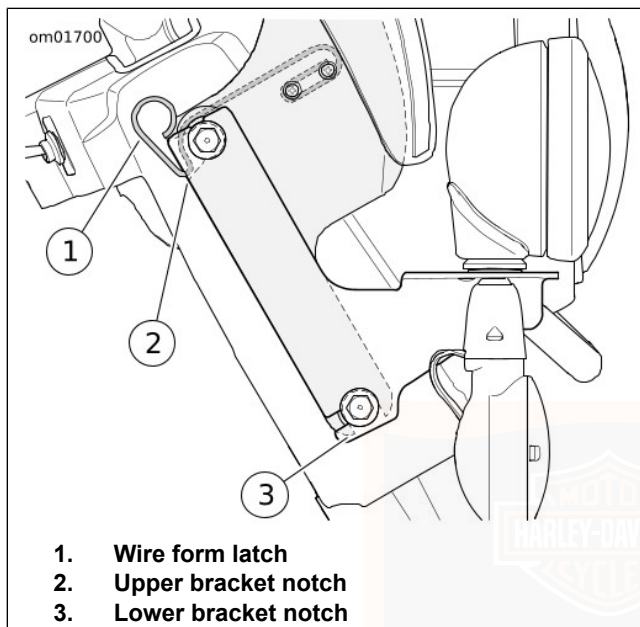

Figure 51. Removeable Windshield
1. See Figure 51. Lift the wire form latch springs on both sides of the windshield bracket.
1. See Figure 51. Firmly seat the bottom of the windshield bracket to engage the lower grommets.